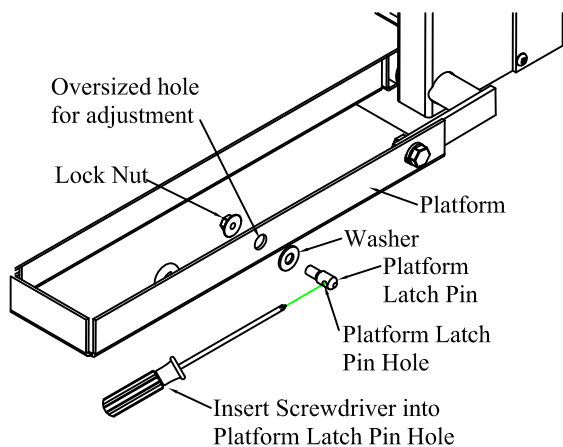

Figure 14: Platform latch pin.
1. **Loosen** the platform latch pins with a screw driver and wrench (Figure 14).